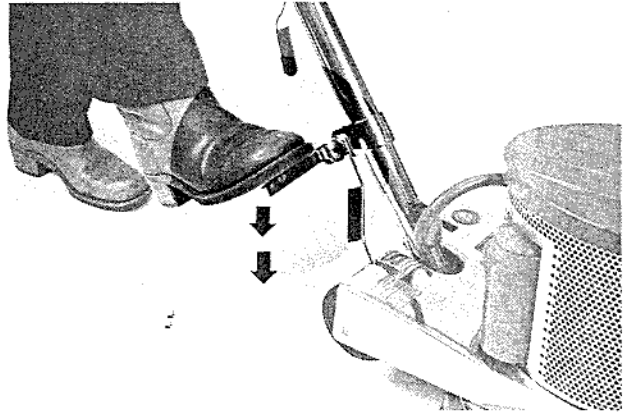

Figure 10
3. Using your foot, push the locking lever down. See figure 10.